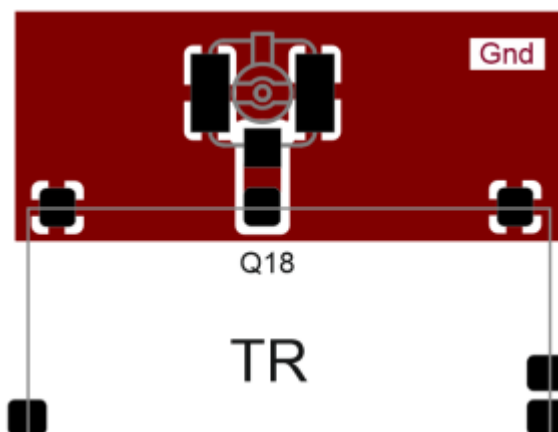

Fig.11: Recommended KON-U.FL-R-SMT layout (example for TR-76D)
- 200526 Chapters *Unused pins* and *Internal pull-up resistors* added. Fig.11 (recommended KON-U.FL-R-SMT layout) revised.